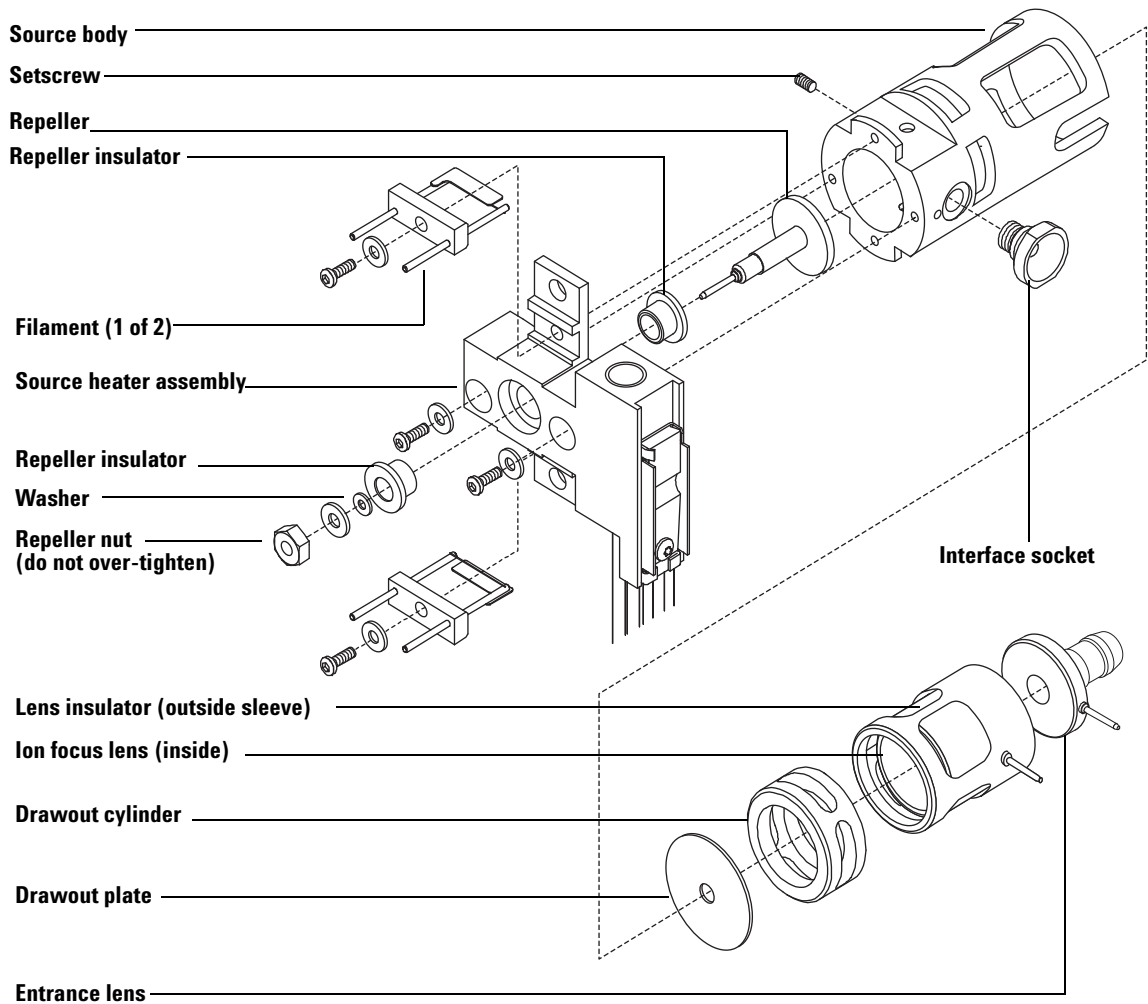

Figure 21 Disassembling the standard EI ion source
- 3 Separate the source heater assembly from the source body by removing the two screws. The source heater assembly includes the source heater, repeller, and related parts. (See Figure 21.)
- 4 Disassemble the repeller assembly by removing the repeller nut, washers, ceramic insulators and repeller. (See Figure 21.)
- 7 Pull the lenses out of the source body and separate the lens insulator, ion focus lens, drawout plate, drawout cylinder, and entrance lens. (See Figure 21.)
- 1 Assemble the ion focus lens, entrance lens, and lens insulator (Figure 21).
- 2 Slide the drawout plate and drawout cylinder into the source body (Figure 21).